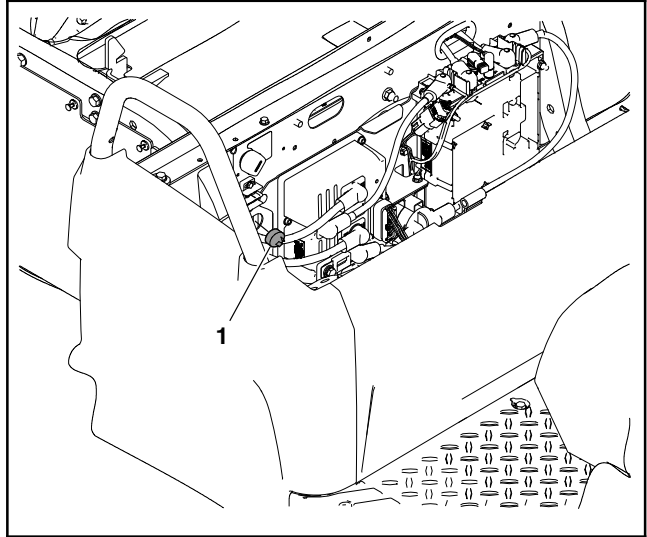

Figure 51
The reverse alarm sounds when the direction switch (forward/reverse) is placed in the reverse position. The alarm is located under the seat assembly attached to the rear frame panel below the supervision speed limit switch (Fig. 51).
3. Disconnect wire harness connectors from alarm (Fig. 51).